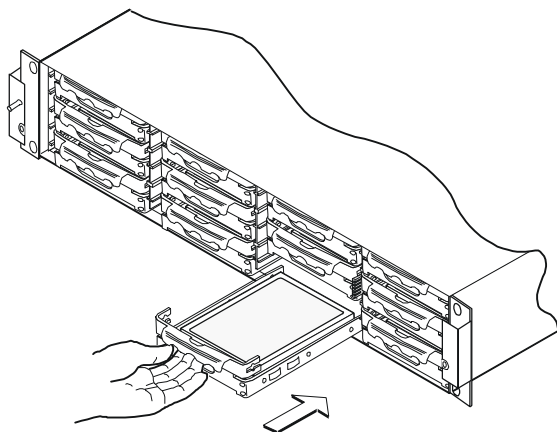

Figure 5-9 Inserting a Disk Drive
- 6 Align the drive carrier rail with the grooves in the drive bay. See Figure 5-9.